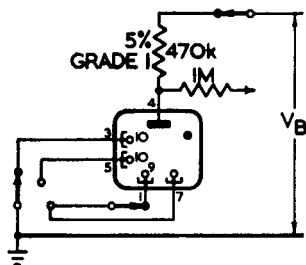

Fig. 3
- The  $K_{1.9}$  1st guide and 2nd guide electrodes will be successively earthed through a suitable make before break type switch to cause 30 gaps to conduct in turn. The running voltage across each gap shall be within the specified limits. For this test the  $K_0$  and  $K_{1.9}$  electrode will be commoned. The test circuit to Fig. 3 is applicable. The measurement of the running volts is to be made between 0.1 and 2.0 seconds after the contacts of the make before break type switch have broken.